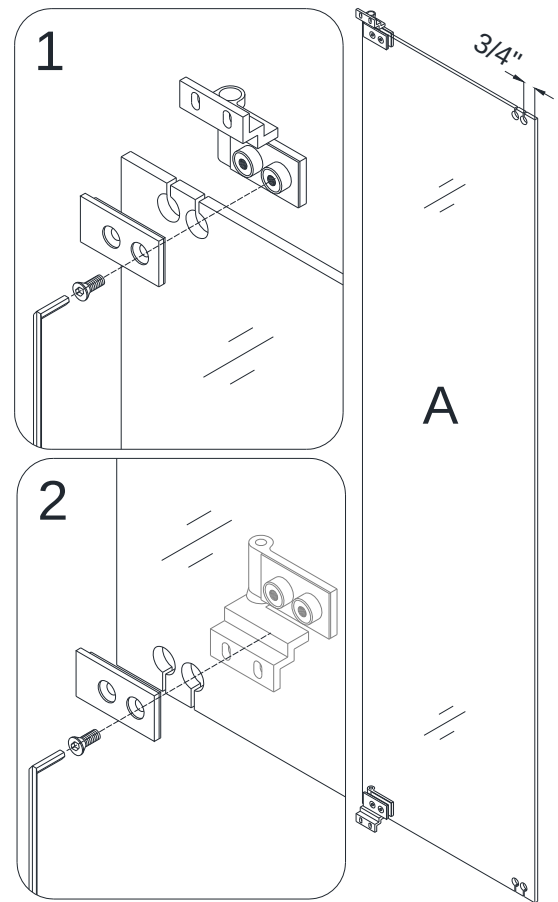
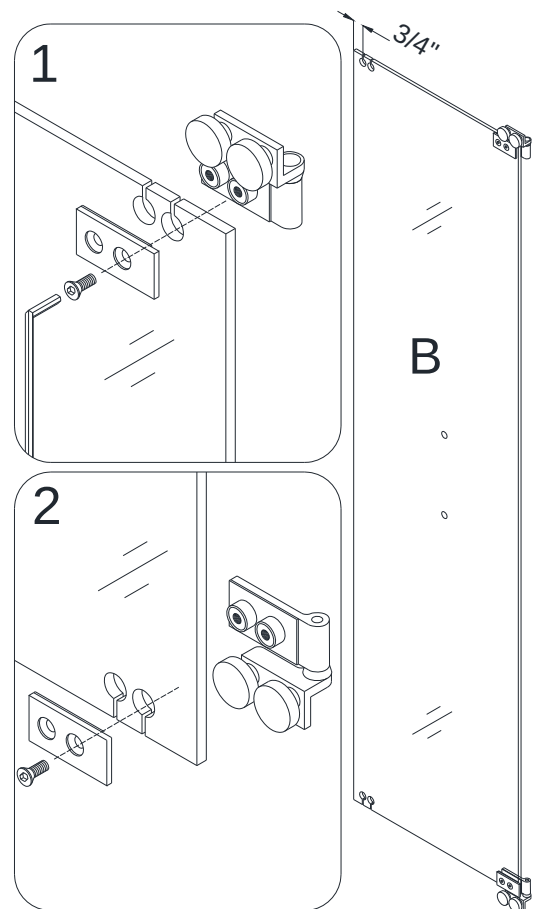
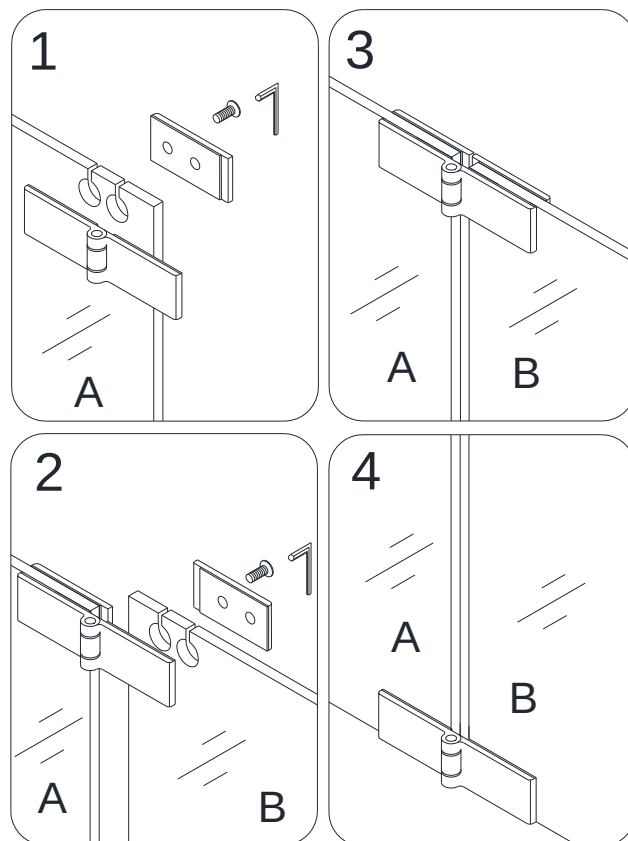
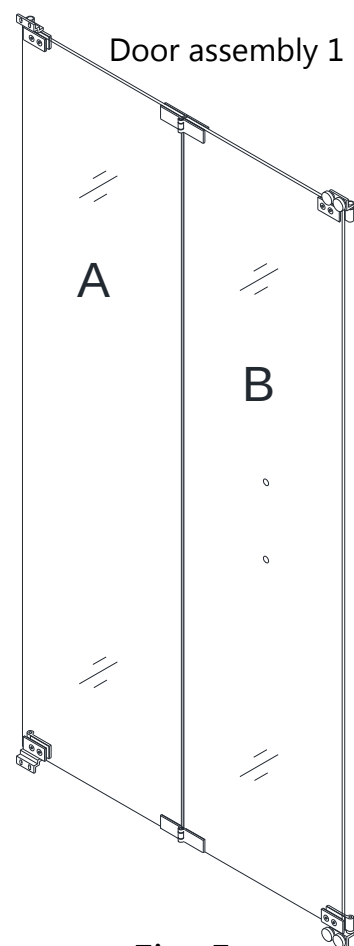

Fig. 2
Fig. 3
Fig. 4
Fig. 5
See Fig. 2 and Fig. 5 for details.
See Fig. 3 and Fig. 5 for details.
See Fig. 4 and Fig. 5 for details.
10. Slide the pre-installed **Door assembly 1** (as showing in Fig. 5) into the channel of the **Guide rails (03)** from the right side.